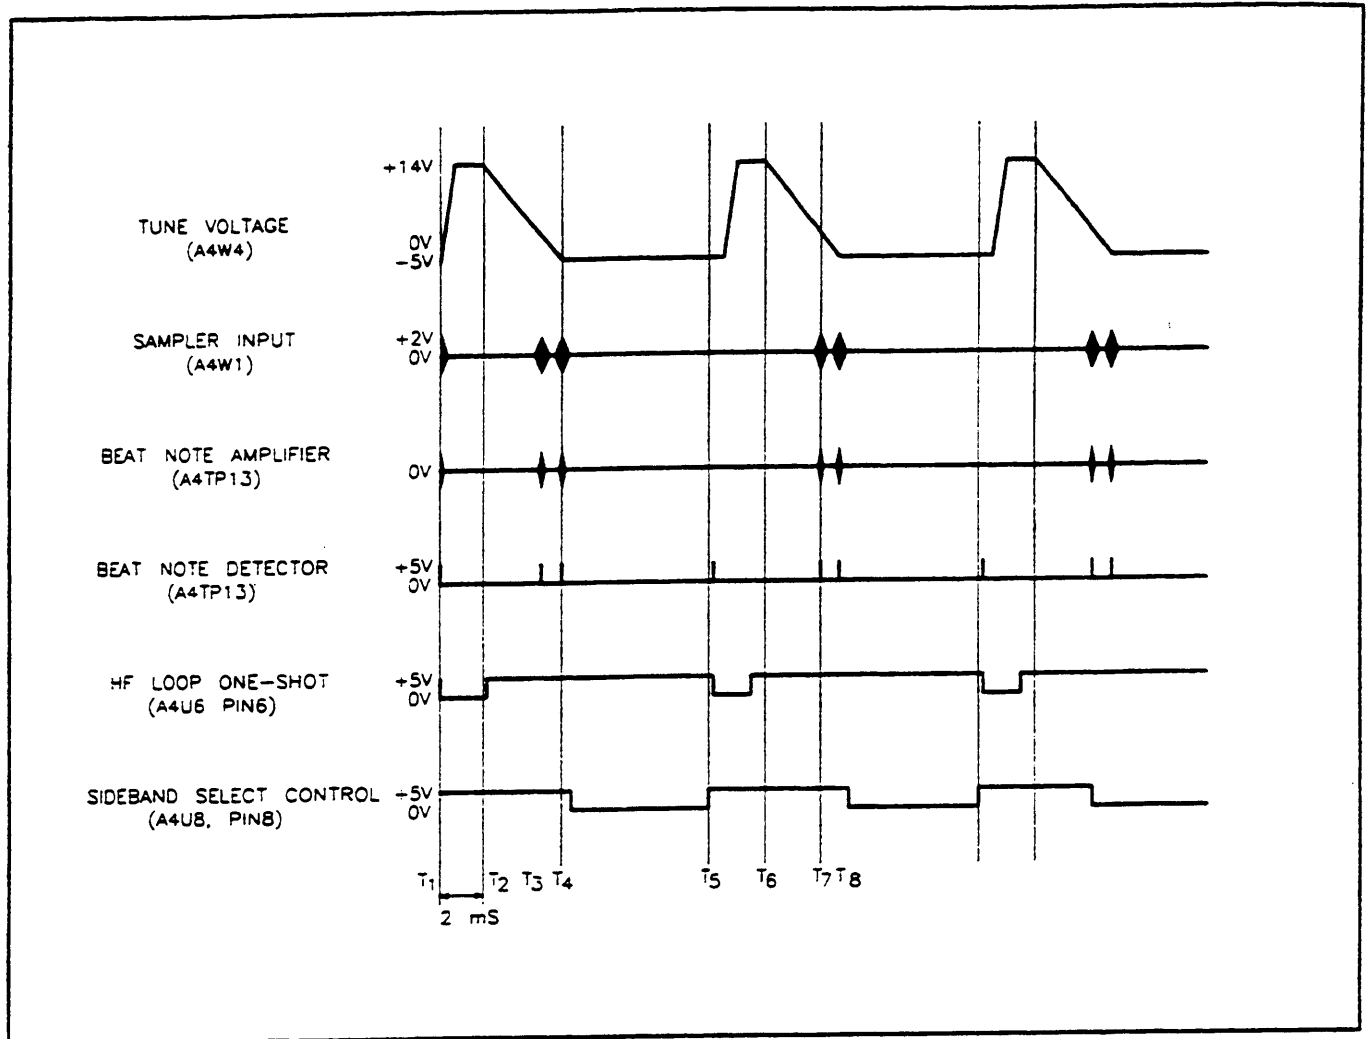

Figure 1. High Frequency Loop Control Timing Diagram.
A High Frequency Loop Lock cycle is started by the SDA input from the Microprocessor Assembly or the Out-Of-Lock Detector by triggering the High Frequency Loop One-Shot. The High Frequency Loop One-Shot output pulse causes the Side Band Select Control and Loop Amplifier Ramp Control to ramp the Loop Amplifier to its Maximum voltage. When the High Frequency Loop One-Shot times out, the Loop Amplifier voltage will ramp down. As the voltage ramps down, the High Frequency Loop VCO's frequency will sweep from high, 1040 MHz, to low, 520 MHz. During this sweep, the VCO's frequency will pass through a valid High Frequency Loop lock point. At the lock point, the Sampler will output a beatnote. The beatnote is amplified and detected by the Beatnote Detector. The Beatnote Detector outputs a clock pulse to the Side Band Select Control to terminate the Loop Amplifier's voltage ramp at the lock point. See Figure 1.
When the VCO frequency is swept over its frequency range and a lock point is encountered, a beatnote will be generated by the Sampler. The beatnote starts out as a high frequency sine wave that decreases in frequency and increases in amplitude. See Figure 1, High Frequency Loop Control Timing Diagram. The beatnote from the sampler is amplified by the Beatnote Amplifier, U3, and is applied to the Beatnote Detector, U7C.
3. Set the Signal Generator's Frequency to 550 MHz. See Figure 1, High Frequency Loop Control Timing Diagram.
The High Frequency Loop VCO is to lock at a frequency of 550 MHz. The sideband select data bit at pin 1 of Shift Register U5 is high. The loop is to lock on the lower sideband. The 150 MHz Notch Filter is not selected, and the 150 MHz IF is passed to the Sampler. The other IFs are filtered out by the Notch Filters selected. The input frequency to Mixer A4U1 is 700 MHz. See Figure 1. At time T1, the SDA data bit triggers the High Frequency One-Shot U6. The Loop Amplifier's output voltage at W4 is ramped high and remains high until U6 times out at time T2. The VCO's frequency has been swept high, 1040 MHz. At time T2, the VCO tune voltage and frequency starts to ramp down. At time T3, the VCO's frequency is 850 MHz. The IF is 150 MHz,  $850 - 700 = 150$ , and a beatnote is received from the Sampler. The beatnote is amplified and detected by the Beatnote Detector. The Beatnote Detector sends a birdie pulse to clock the Side Band Select Control. The loop would lock